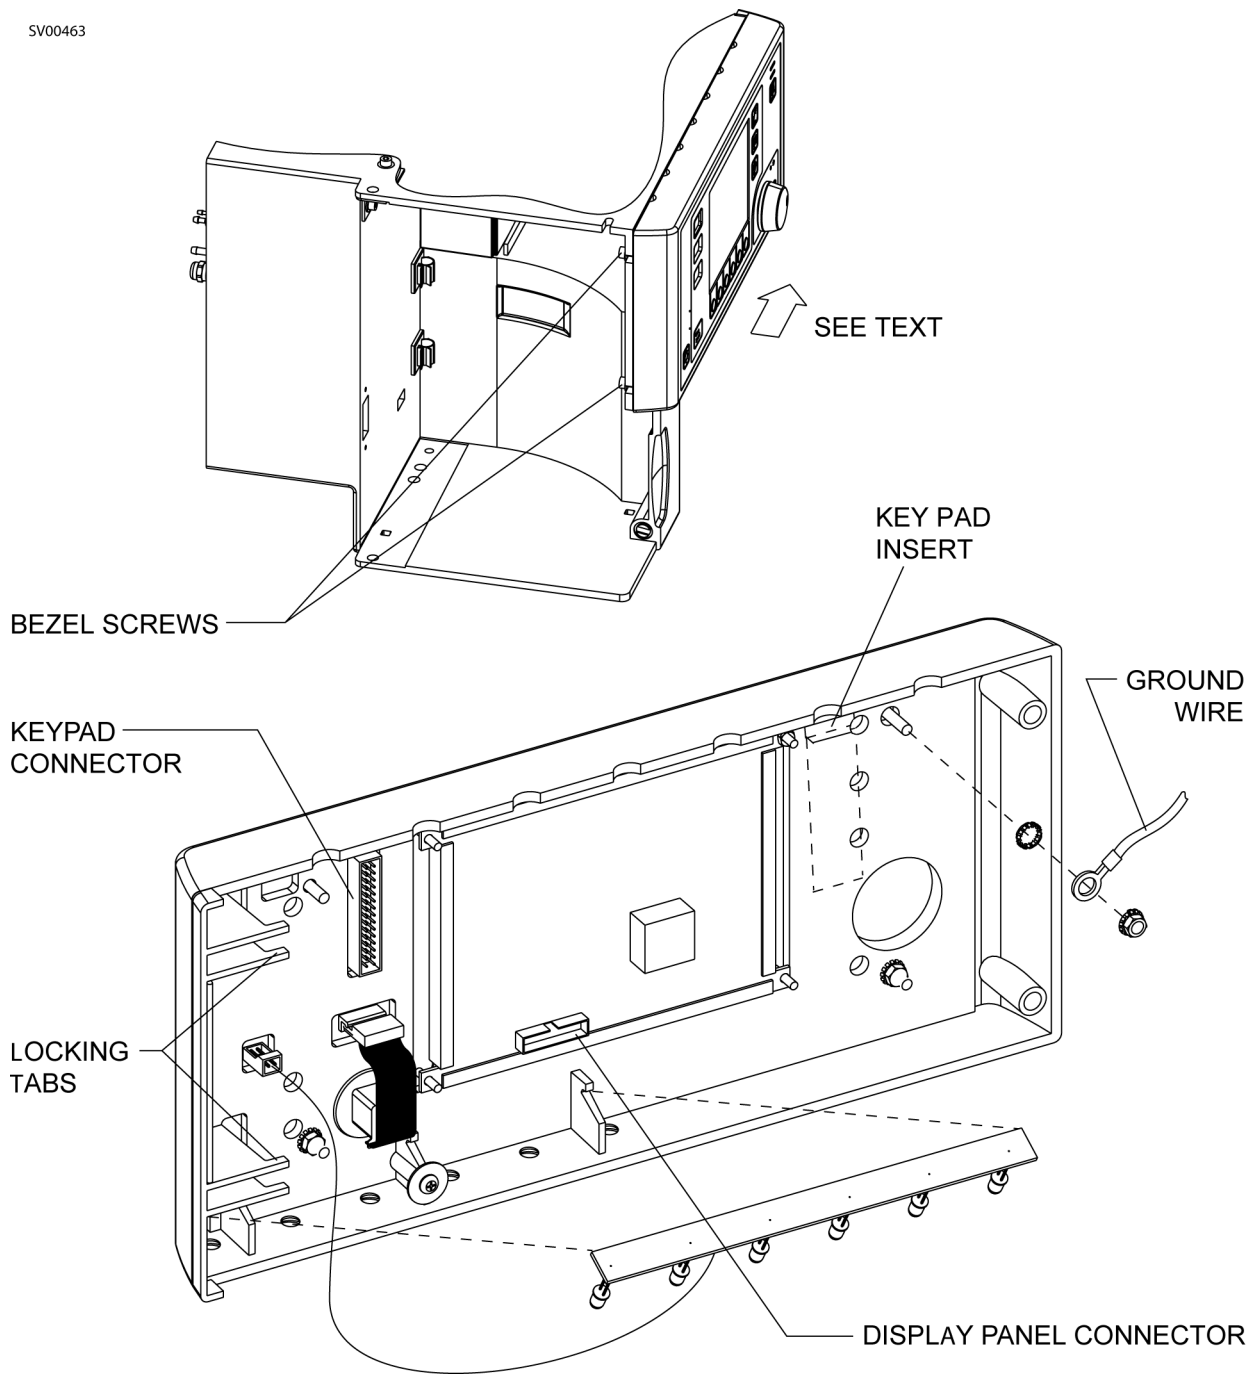

Figure 28 Monitor Bezel Assembly
The monitor bezel assembly comprises the keypad, flat panel display, rotary switch, and LED lamp PCB assembly. Access to the bezel assembly mounting screws is through the ventilator compartment as shown in Figure 28.
Replacement keypads do not include keypad inserts. Therefore, removal of the original keypad insert for later reuse is necessary. Refer to Figure 28 for keypad insert location.
4. Slide the bezel to the right to release its locking tabs from the machine. See Figure 28.